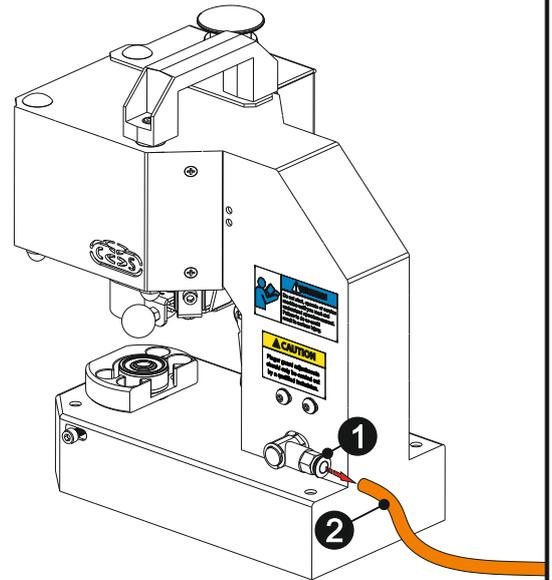

fig. 66
Shut down your air source and unplug the air hose from the machine. In order to unplug the air hose from the machine, push the blue part on the air entrance ① to the machine direction and while doing that pull the air hose ② at arrow direction as shown in (fig. 66).